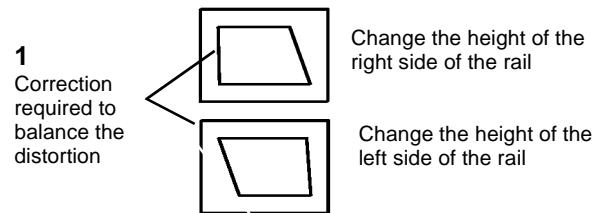

**Figure 7 Aligning the Half-Rate Carriage**
- (Figure 7): With the Half-Rate Carriage against the Positioning Brackets, move the Exposure Lamp Carriage into contact with the frame and tighten the mounting screws.